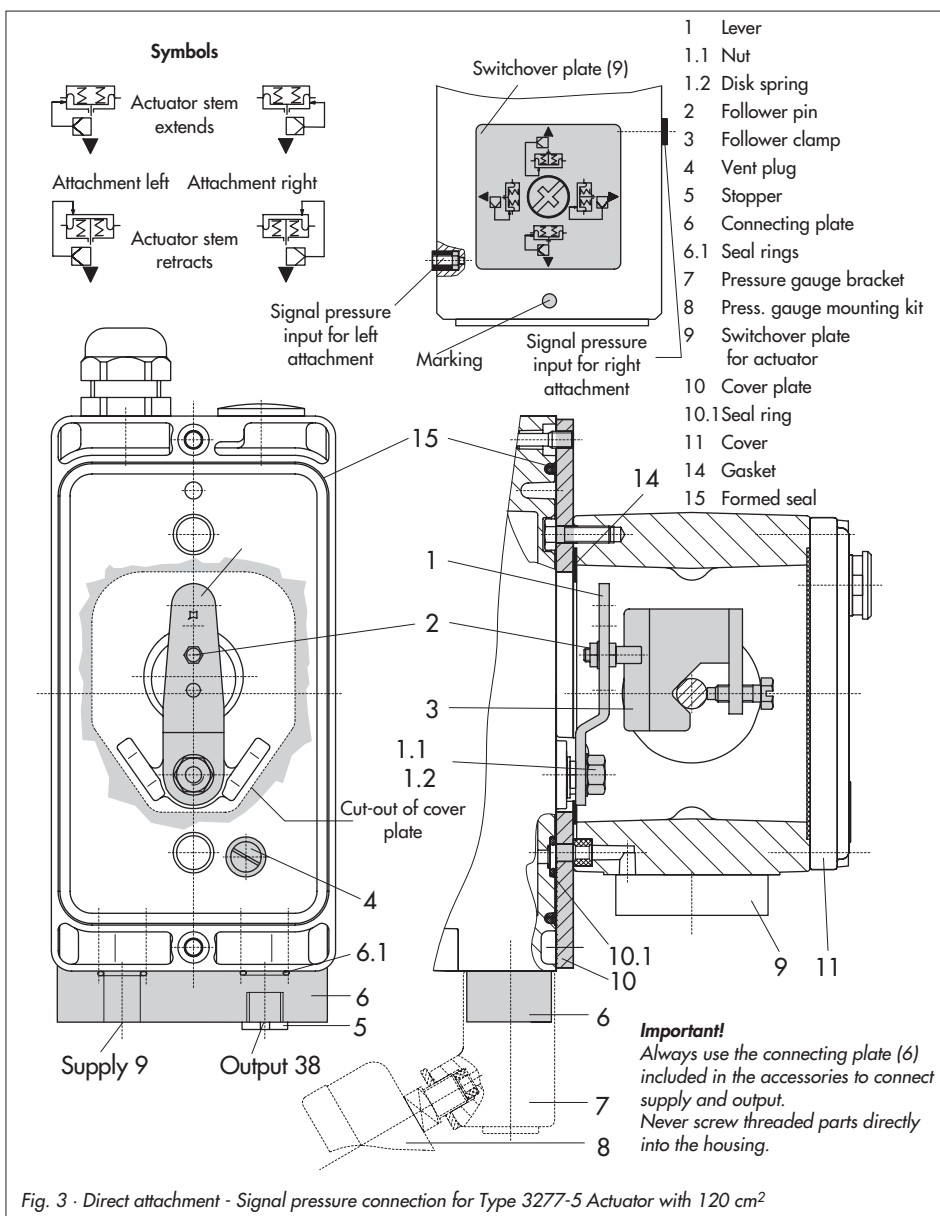

Fig. 3 · Direct attachment - Signal pressure connection for Type 3277-5 Actuator with 120 cm²
1. Mount connecting plate (6) or pressure gauge bracket (7) with pressure gauges onto the positioner, making sure both seal rings (6.1) are seated properly.
2. Remove vent plug (4) on the back of the positioner and close the signal pressure output "Output 38" on the connecting plate (6) or on the pressure gauge bracket (7) with the stopper (5) included in the accessories.
3. Place follower clamp (3) on the actuator stem, align and screw tight so that the mounting screw is located in the groove of the actuator stem.
4. Mount cover plate (10) with narrow side of the cut-out opening (Fig. 3, on the